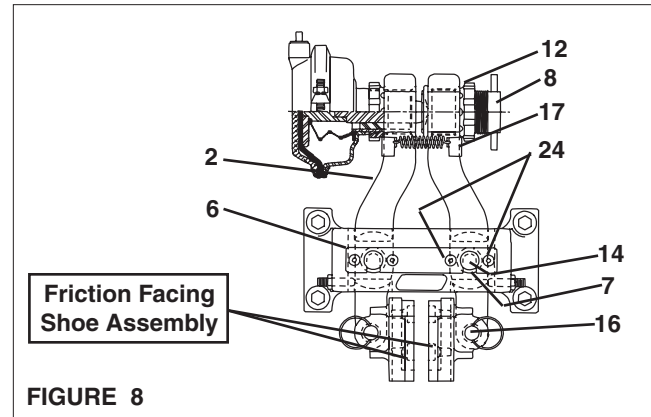

FIGURE 8
- Loosen Adjustment Screw Spanner Nut (Item 12), and Adjustment Screw (Item 8) until Return Springs (Item 17) are free enough to be easily removed (See Fig. 8).
- Remove Shoe Pins (Item 16), and Friction Facing Shoe Assembly (See Fig. 8).
- Remove Pivot Pin Retaining Plate Screws (Item 24) and Retaining Plate (Item 6) (See Fig. 8).
- Remove Pivot Pins (Item 7), and Arms (Item 2) from Main Frame (Item 1) (See Fig. 8).
- Press out damaged Bearings (Item 14), and replace with new Bearings (See Fig. 8).